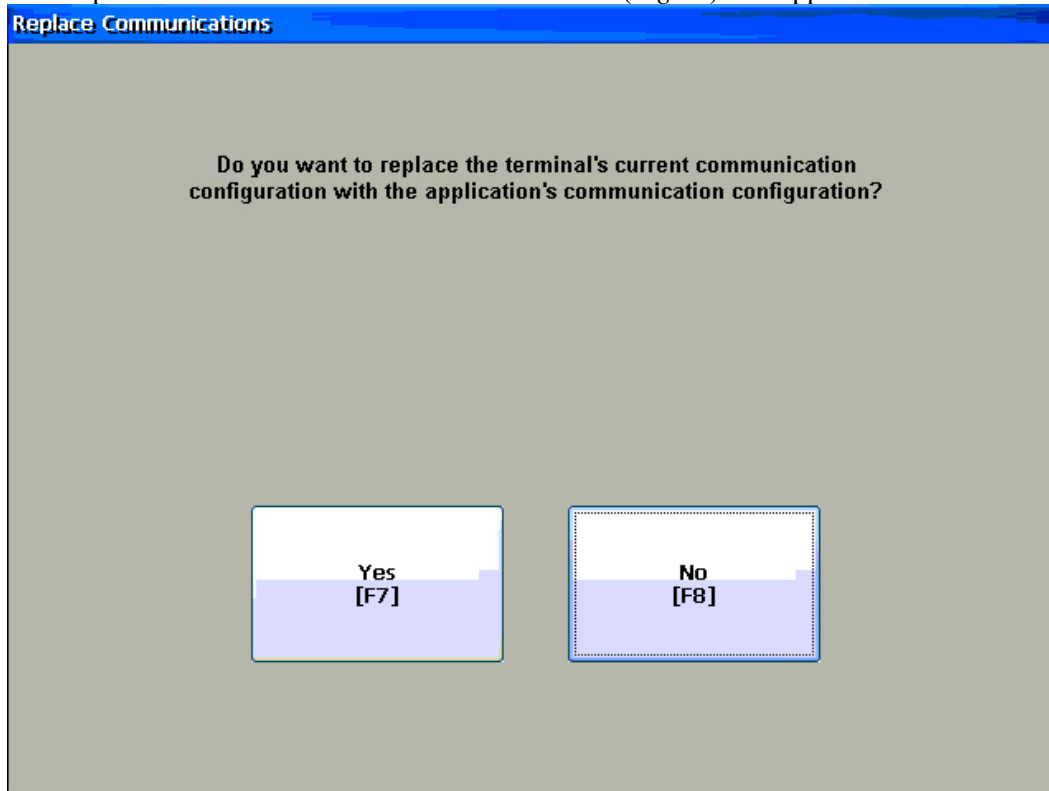

Fig 15
13. The Replace Communications Confirmation Screen (*Fig 15*) will appear.
12. The Replace Communications Confirmation Screen (*Fig 15*) will appear.